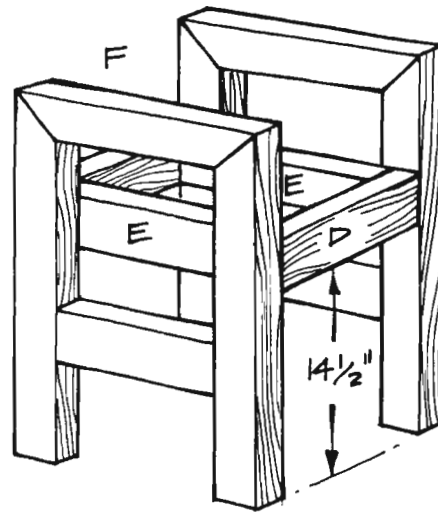

Figure 3
3. As shown in *Figure 3*, attach the assembled seat between the two chair sides 14-1/2 inches from the bottom ends of the chair legs (B). Use two 4-1/2-inch-long screws driven through the face of each leg to secure the seat.